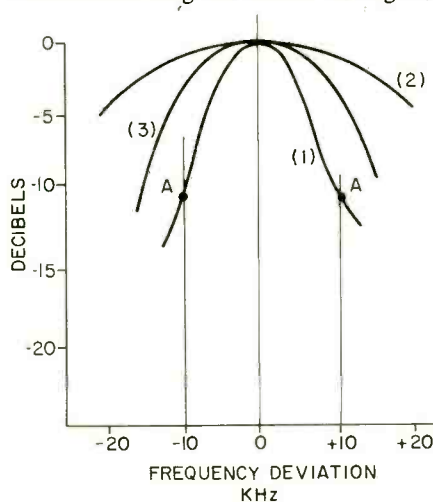

FIG. 9—RESPONSE CURVES of high-, medium- and low-Q L-C resonant circuits.
A resonant circuit is commonly concerned with selectivity and bandwidth. It must pass (or oppose) the resonant frequency as well as any desirable sidebands while discriminating against any undesired frequencies. A resonant circuit used in the reception of standard AM broadcast signals must pass the carrier frequency plus the 10-kHz sidebands containing the sound. In Fig. 9,
FIG. 9—RESPONSE CURVES of high-, medium- and low-Q L-C resonant circuits. curve (1) shows the response of a parallel-resonant circuit having a very high Q factor. This very high Q circuit will readily pass the carrier frequency but the sideband frequencies, at A and A', will be reduced too much. Curve (2), with a very low Q circuit, goes to the other extreme and would pass much of the sideband frequencies associated with an adjacent-channel station. Sideband frequencies would be reduced by the medium Q circuit represented by curve (3) but that reduction could probably be tolerated. Thus, the Q of a resonant circuit determines its selectivity and its bandwidth.